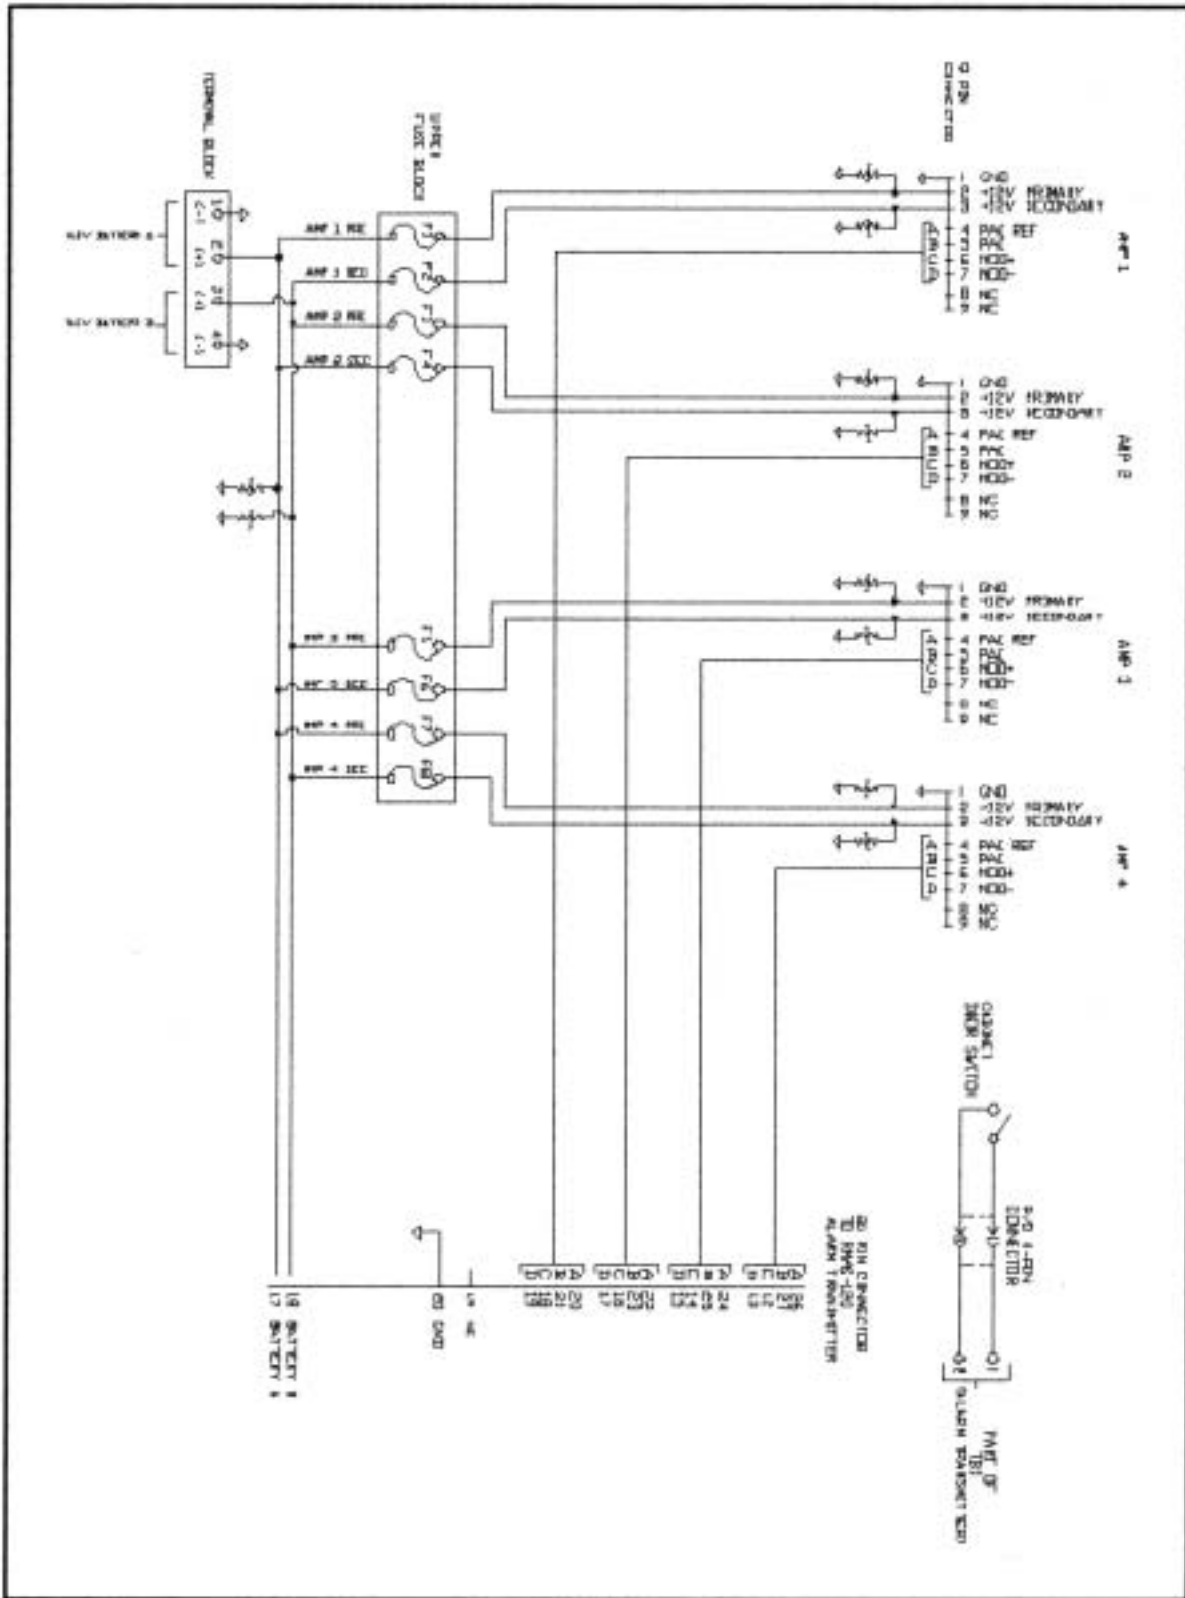
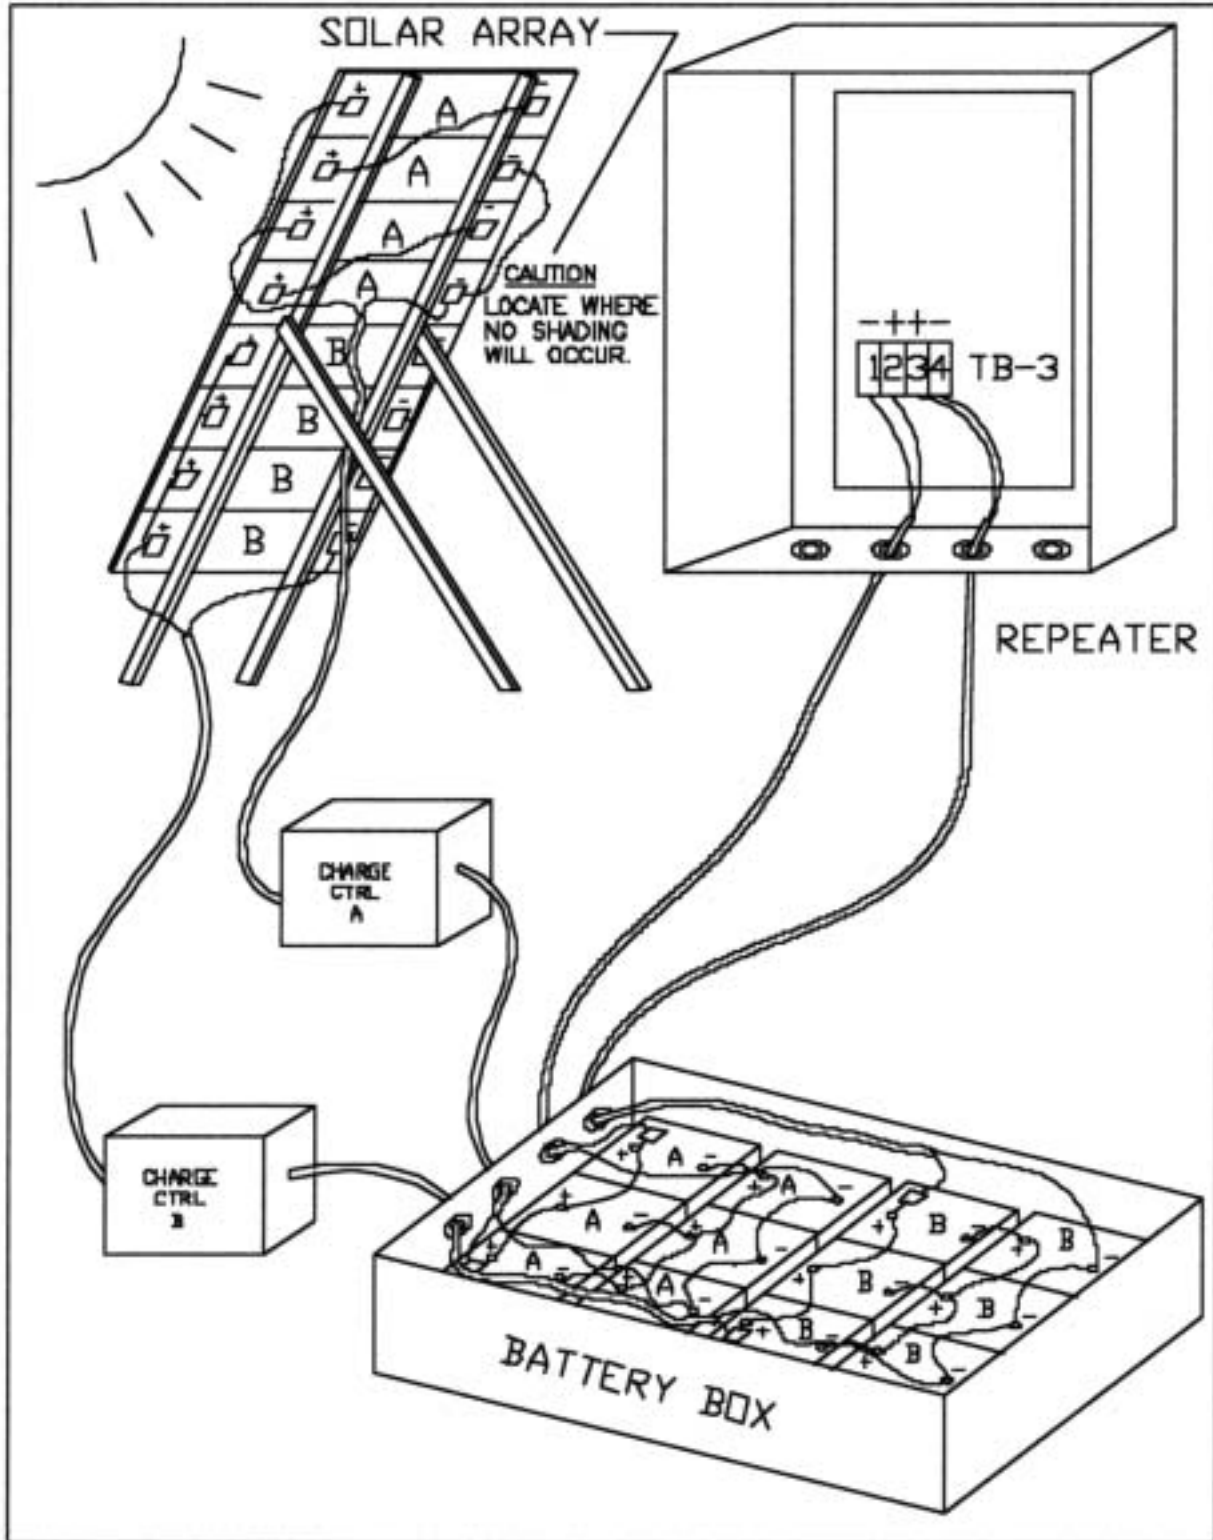

Figure 6. Repeater Wiring Diagram
Figure 8. Repeater Power Wiring Illustration
- The repeater assembly can be powered from solar panels or batteries, primary cells only, or from an AC/DC supply with standby battery (see Figure 6, Figure 7, and Figure 8).